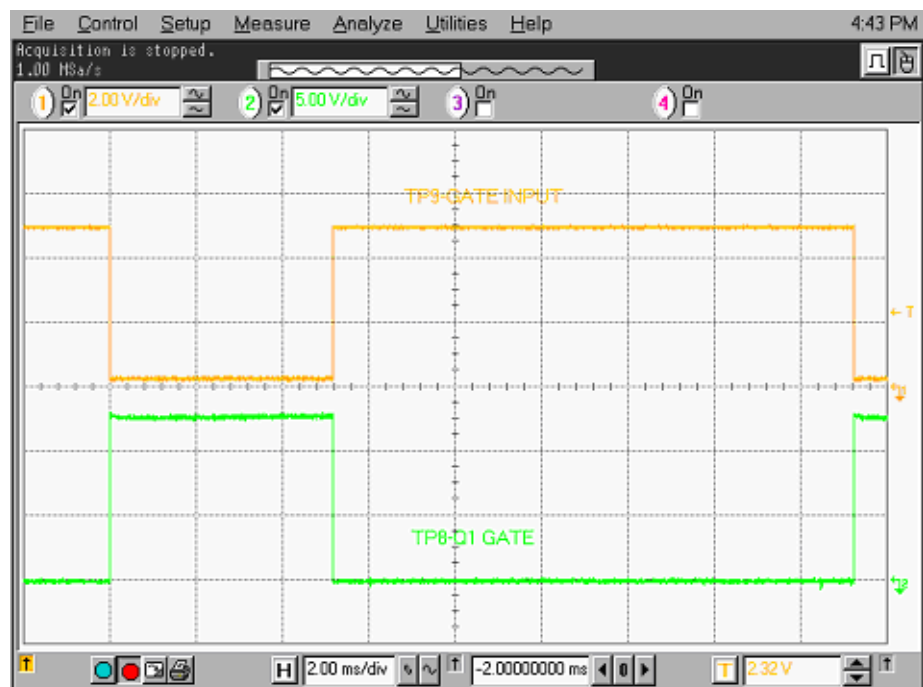

Figure 62 - Gating Pulses
18. Verify that the signals at TP9 and TP8 are as shown in Figure 62 on page 80.
22. Apply a 60 Hz, 33% duty cycle signal, at a 0 to +2V level, between the TB1-2 input and COM. Verify the signals as illustrated from Figure 62 to Figure 66 on page 82. Note that in Figure 66 on page 82 there should be a 220 μ S, +/-20 μ S time between the rising edge of the U4-pin7 pulse and the falling edge of the TP7 signal.